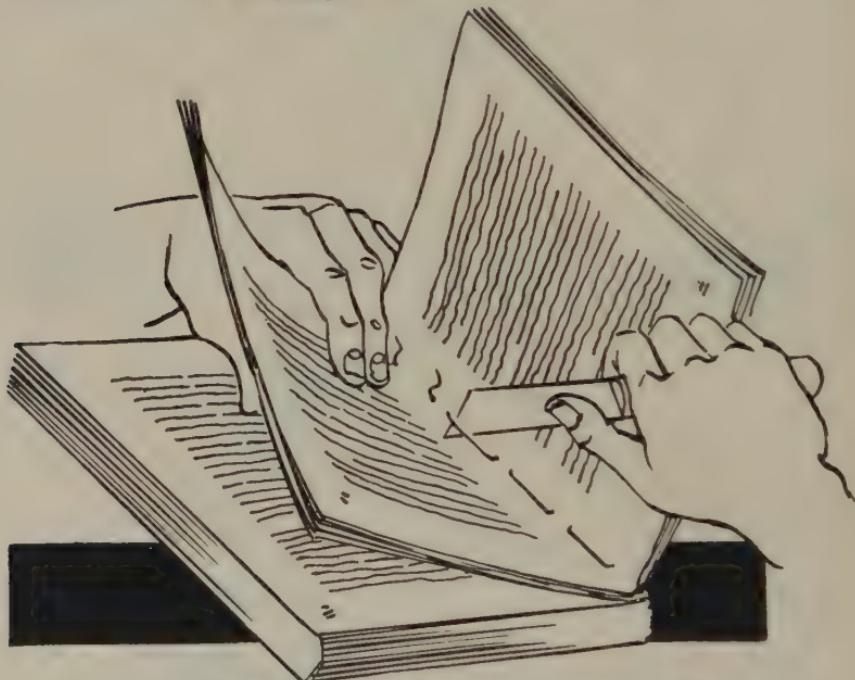

FIG. 158—CUTTING THREAD IN LOOPS, CENTER OF SECTIONS
6. Now open the book to the *center* of the first section and find the sewing threads. Carefully cut each pair of threads between stitches. To do this slip the point of your knife under the thread loops. and cut. (Fig. 158.)